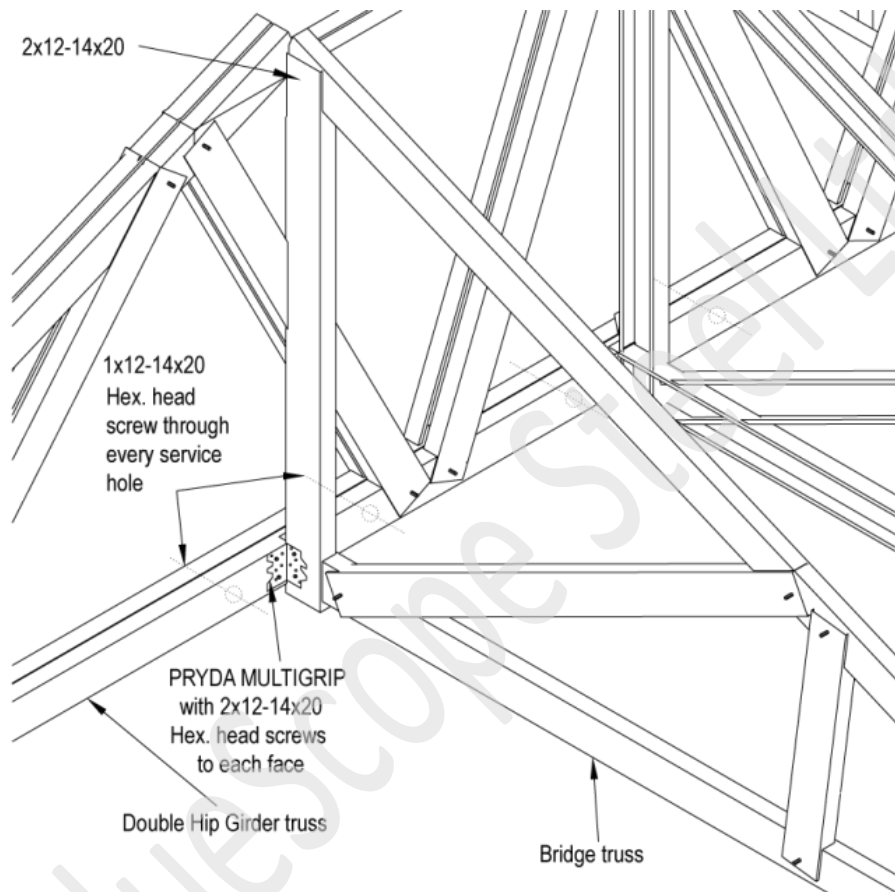

Figure 7.25a Bridge truss to hip girder truss connection
Fix the bridge truss to hip girder bottom chord as shown in fig. 7.25a. Using a multigrip fixed with 2x12-14x20 hex head screws. The tab on the bottom chord may need to be cut or bent for fixing. Ensure bridge truss spacing is not exceeded.
STEP 8: A single girder truss can be installed using either a 25 x 5mm strap tie down or a 50 x 50 x 3mm angle tie down as is shown in fig 7.25b(ii) or 7.25b(iii). Install the second ply girder truss (if applicable) with the toes of both trusses facing each other and fix it to the brackets as shown in fig 7.25b or 7.25b(i). Install 1x12-14x20 Hex Head screws through EVERY service hole provided on the bottom chord to connect the two trusses together as shown in fig 7.25a & 7.25b(iv).